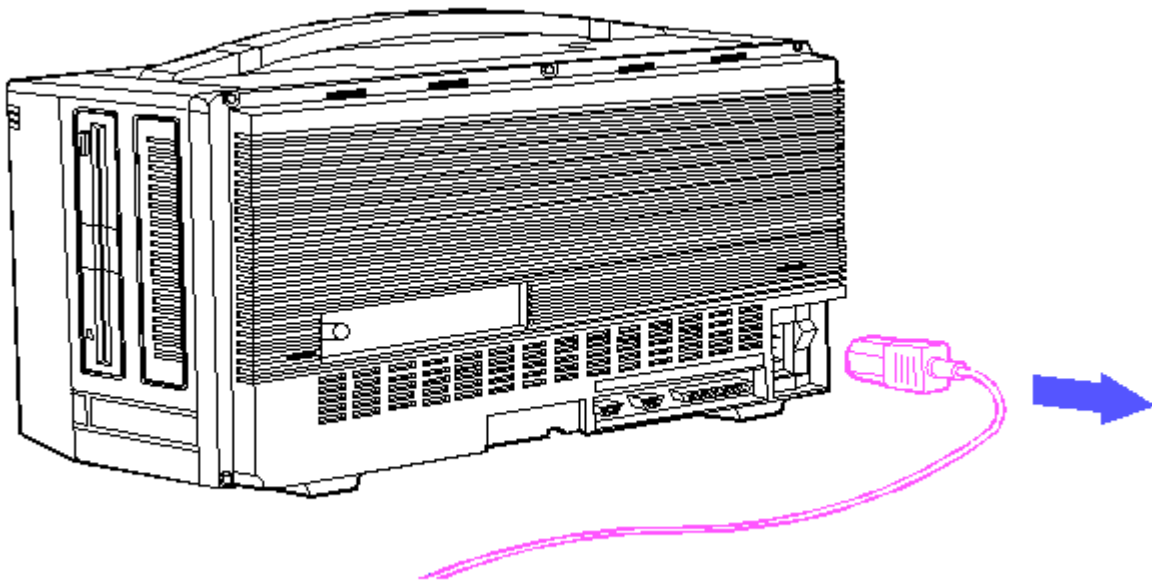

Figure 8-1. Disconnecting the AC Power Cord
3. Disconnect the AC power cord from the AC outlet and from the computer (Figure 8-1).